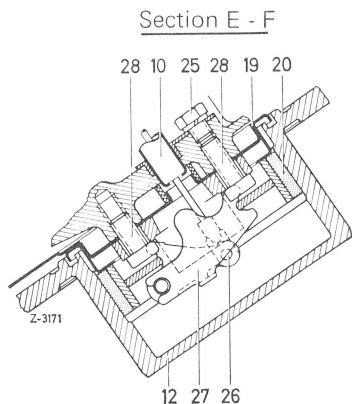

Fig. 14
9 Push bolt (26) out of expanding lock (27) and remove expanding lock from brake cable control (10) (Fig. 14 and 15).
10 Coat all bearing and slide surfaces on expanding lock with Molykote paste, attach brake cable control (10) with bolt (26) to expanding lock (27). Then push expanding lock toward cover plate (19) (Fig. 14 and 15).